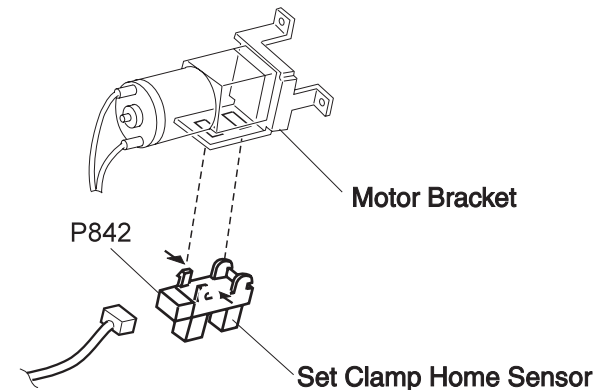

Figure 3-79. Set Clamp Home Sensor
1. Insert the Set Clamp Home Sensor to the Bracket as shown in the Figure 3-79.